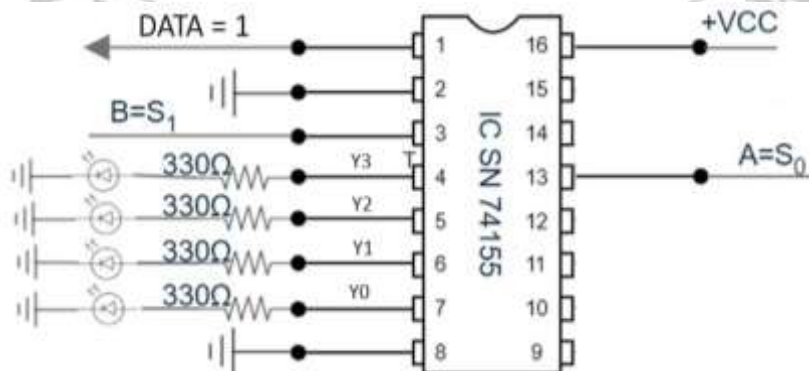

Fig 11.3 Circuit Diagram of 1: 4 DEMUX using IC SN 74155
3. Make the connection as per fig 11.3.